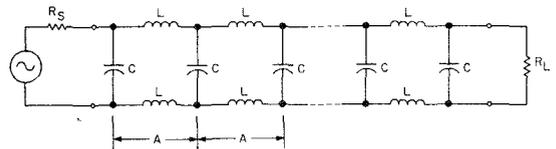

Fig. 1. Schematic representation of a transmission line.
el, we find that the transmission line can be modeled as a complex circuit having both distributed inductance (L) and distributed capacitance (C). Fig. 1 shows an equivalent circuit. If dimension "A" in Fig. 1 is unit length, then L is the inductance per unit of length and C is the capacitance per unit of length. There is also a source impedance, R_S , which is the transmitter output impedance, and a load impedance, R_L , which is the antenna radiation resistance.